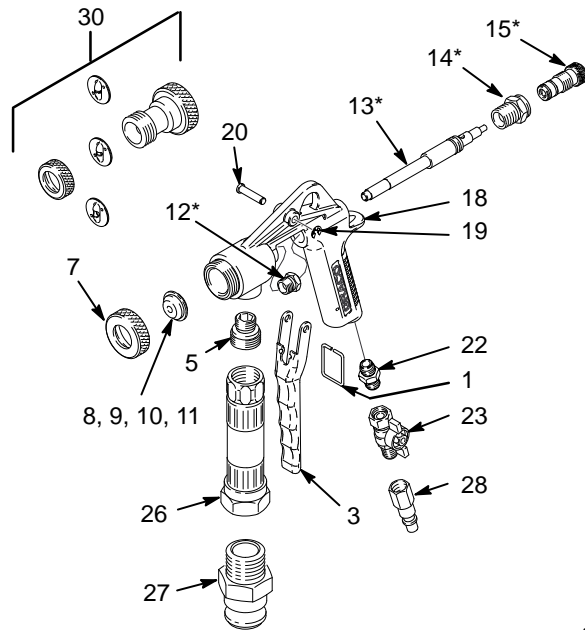

**Fig. 2** \_\_\_\_\_ 8416A
**Material flow knob adjustment (Fig. 2)**
**Air flow valve adjustment (See Fig 2)**
Oil the gun daily with a few drops of light oil (SAE-10) at the points indicated in Fig. 2.